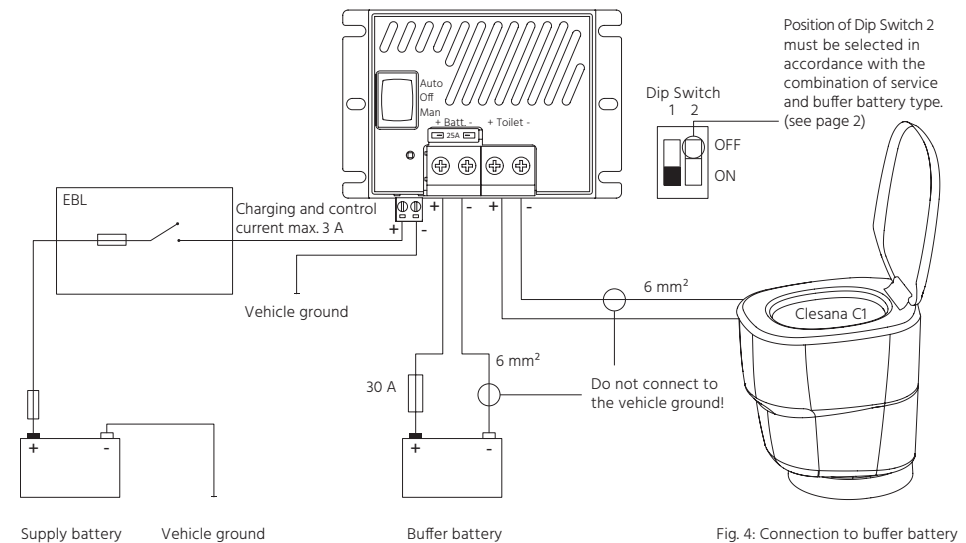

Fig. 4: Connection to buffer battery
- Battery:** The battery is connected using the original cable set from Clesana. The cable set is fused with 30 A just behind the battery pole; do not insert the fuse yet, it is inserted for the initial start-up. Caution, the ground side of the battery must not be connected with the vehicle ground (body), the ground wire goes directly from the battery into the Clesana Power-Management, see Fig. 4.